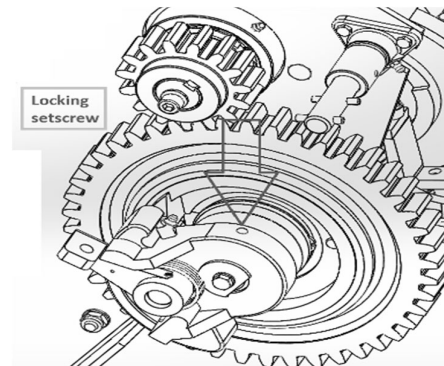

Figure 36: Locking setscrew
- Take off automatic latch of locking setscrew and front bolt (Figure 36).